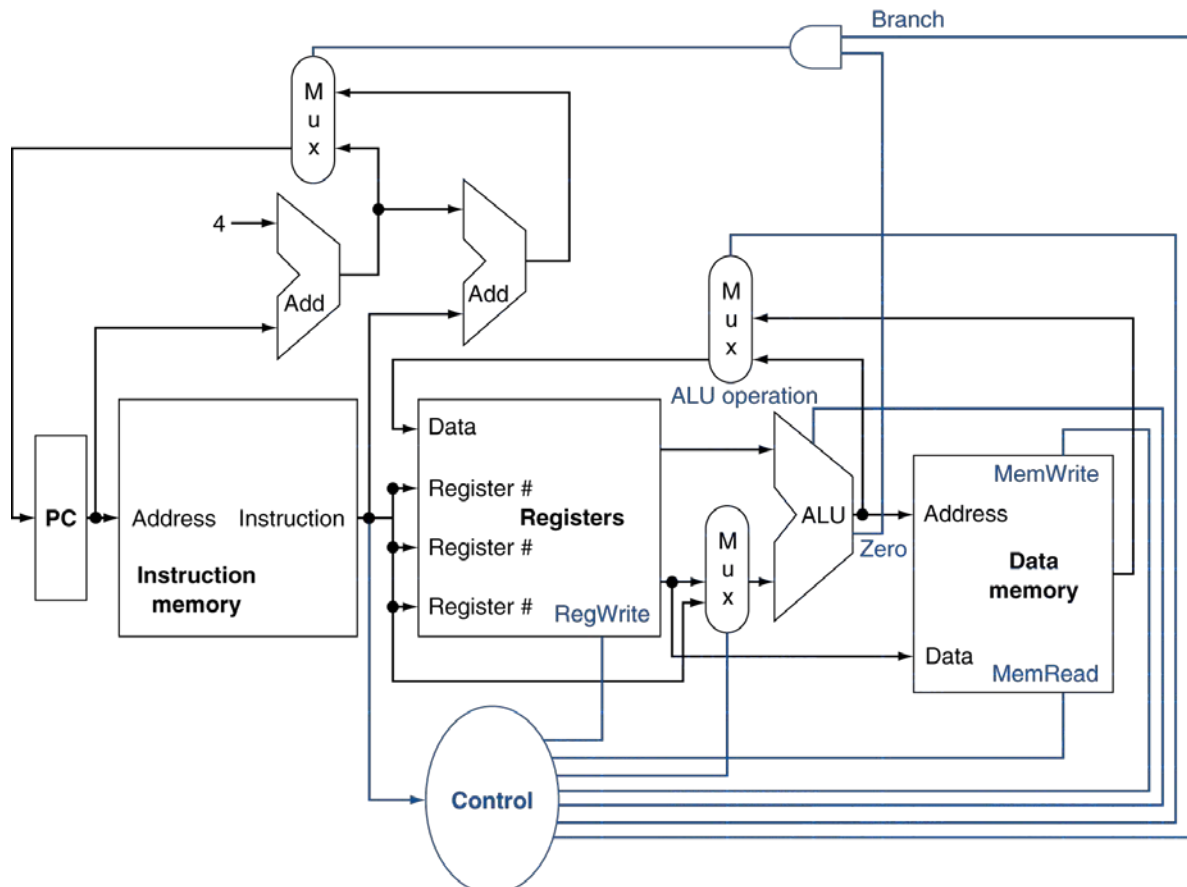

Figure 1: The basic implementation of the MIPS subset, including the necessary multiplexors and control lines.
- What are the values of control signals generated by the control in Figure 1 for this instruction?
Different execution units and blocks of digital logic have different latencies (time needed to do their work). In Figure 1 there are seven kinds of major blocks. Latencies of blocks along the critical (longest-latency) path for an instruction determine the minimum latency of that instruction. For the following three problems, assume the following resource latencies:
The basic single-cycle MIPS implementation in Figure 1 can only implement some instructions. New instructions can be added to an existing ISA, but the decision whether or not to do that depends, among other things, on the cost and complexity such an addition introduces into the processor datapath and control. The next three problems refer to this new instruction: